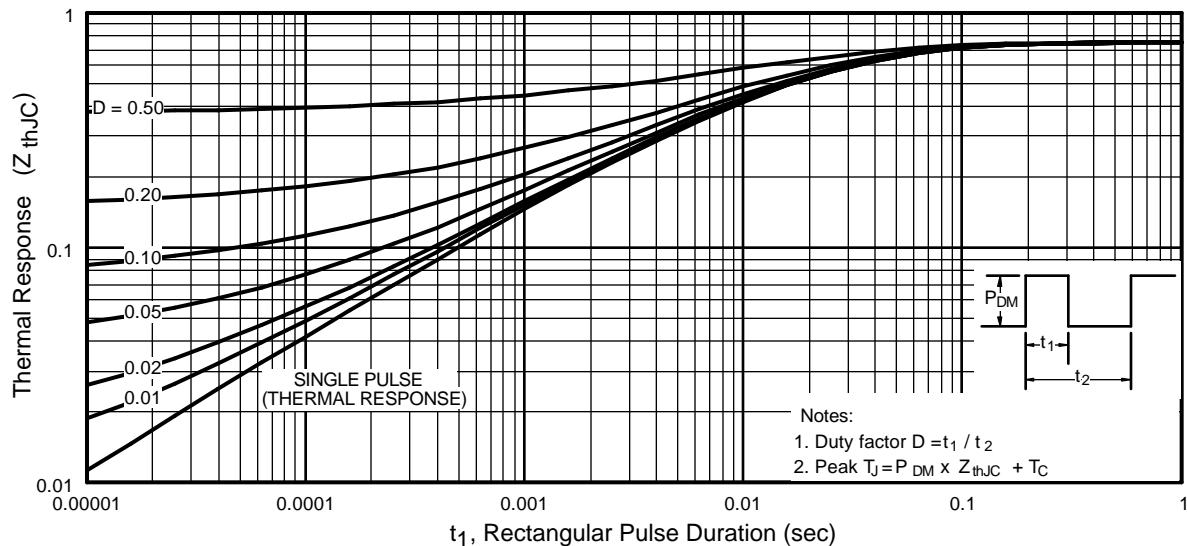

Fig 11. Maximum Effective Transient Thermal Impedance, Junction-to-Case
- ① Repetitive rating; pulse width limited by max. junction temperature. (See fig. 11)
② $V_{DD} = 25V$, starting $T_J = 25^\circ\text{C}$, $L = 240\mu\text{H}$